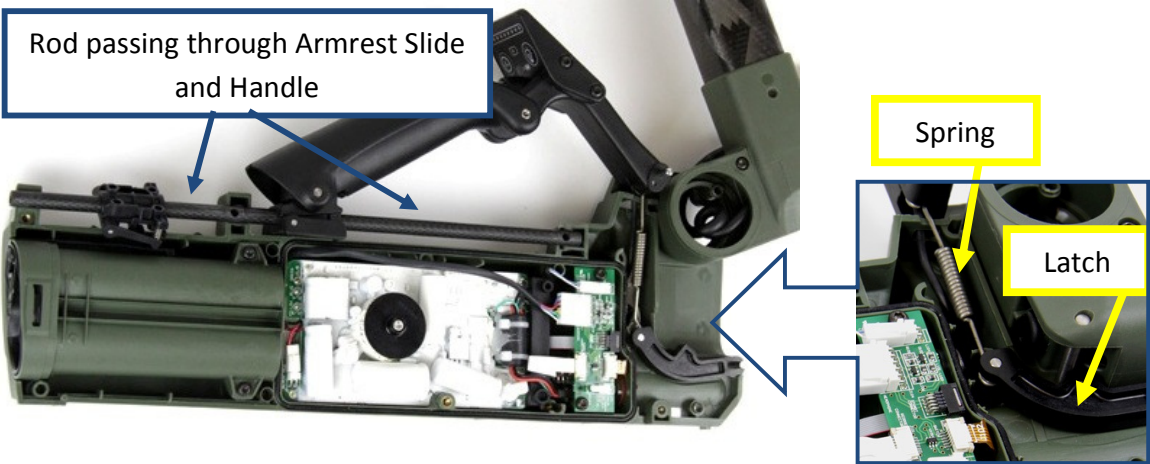

Figure 84: Latch Hinge and Spring Latch Hinge
- Connect the spring latch hinge to the latch hinge. Figure 84.